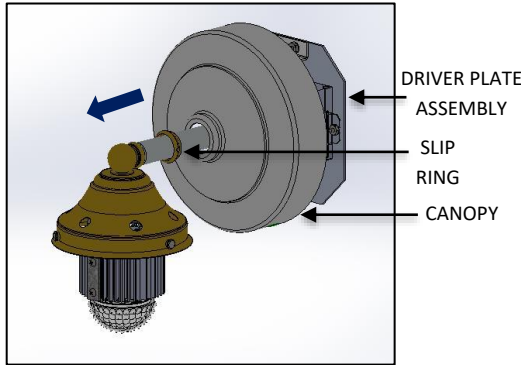
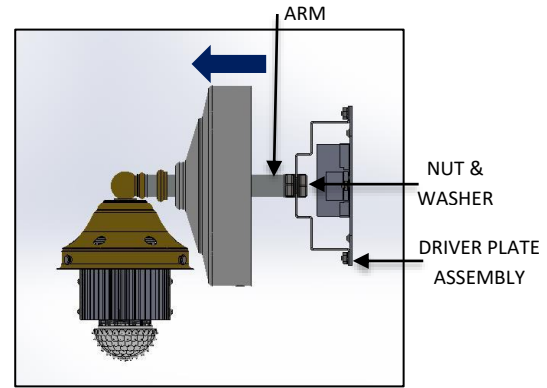

FIG. 5- MOUNTING PLATE DIS-ASSEMBLY
FIG. 6- MOUNTING PLATE DIS-ASSEMBLY
1. Loosen SET SCREW (pre-assembled in SLIP RING) on CANOPY and slide over ARM. Be careful not to scratch the finish of the fixture as shown in fig 5. Loosen the back NUT, WASHER and remove the DRIVER PLATE ASSEMBLY from BODY ASSEMBLY as shown in fig 6.